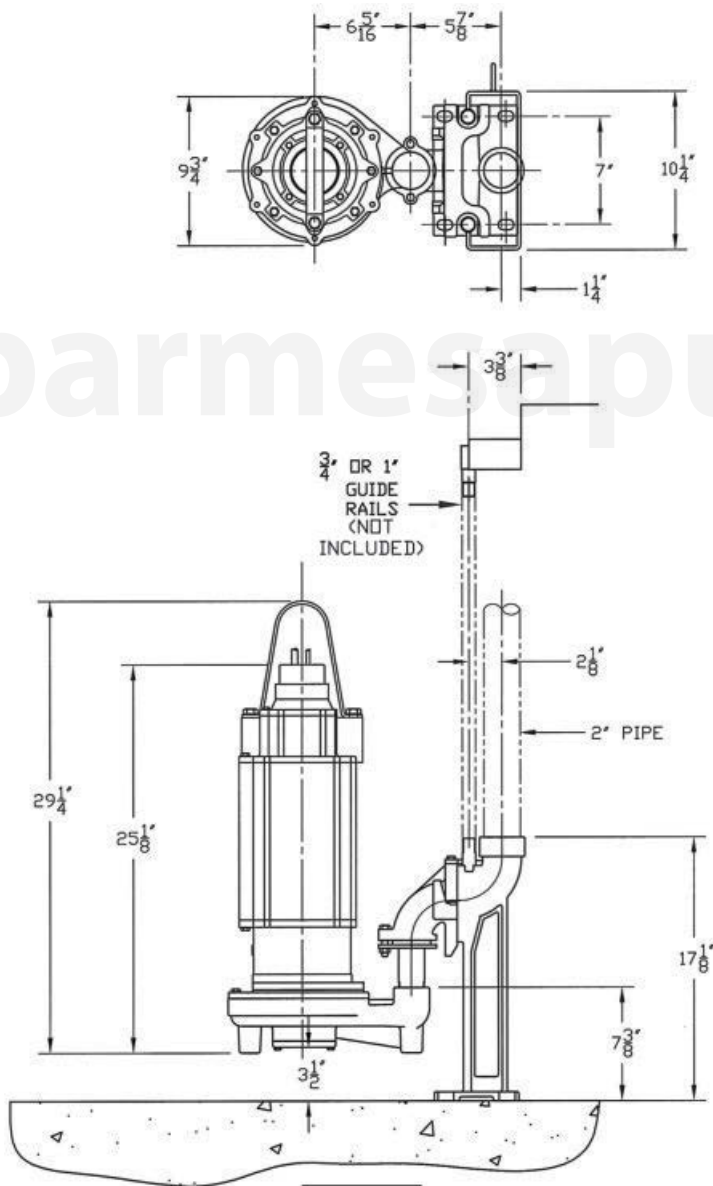

Figure 1
**Installing Pump to Slide Rail Coupling** - (See Figure 1)